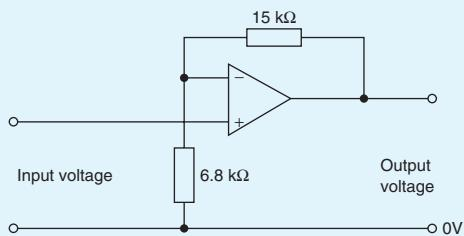

Figure 19.18
- If the input voltage for the op amp shown in Fig. 19.18, is  $-0.5\text{ V}$ , determine (a) the voltage gain (b) the output voltage